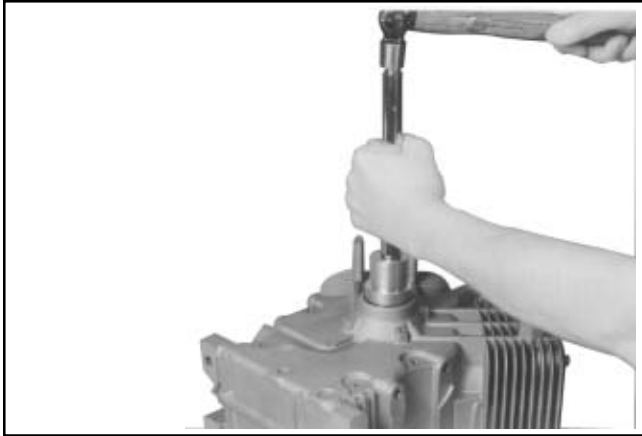

Figure 11-2. Installing Oil Seal.
3. Drive the oil seal into the crankcase using a seal driver. Make sure the oil seal is installed straight and true in the bore and that the tool bottoms against the crankcase. See Figure 11-2.